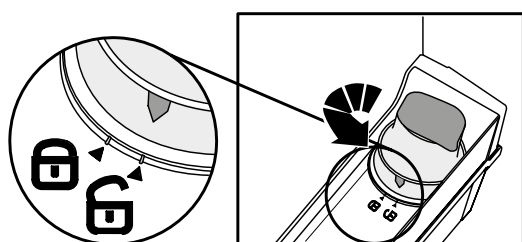

Fig 3
- Unlock the whole filter turning it anticlockwise (**Fig 3**)
- remove the old carbon cartridge and insert the new one after activated, with current month faced in the window). (You can follow the procedure described in Carbon filter activation and Filter installation - Fig. 3, 4, 5, 6, 7, 8).